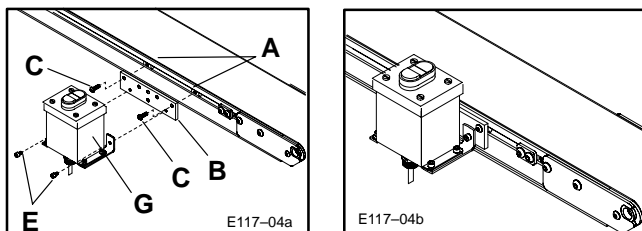

Figure 4: Start-Stop Box Vertical Mounting to Conveyor T-slot
2. Select the desired location and mount the E-Stop Kit either in the conveyor T-slot or on any one of the aluminum or steel Support Stand Vertical Legs (Figures 4 through 9).
- b. Select the desired location and attach the unit to the conveyor T-slot in the manner shown in Figure 4. Attach the Pushbutton Box assembly with Mounting Brackets (in the same way it was packaged, when shipped) to the two Single Drop-in T-bars, using the M6 x 16 mm Button Head Cap Screws (C). Tighten Screws with 4 mm Hex Key Wrench (K) provided.